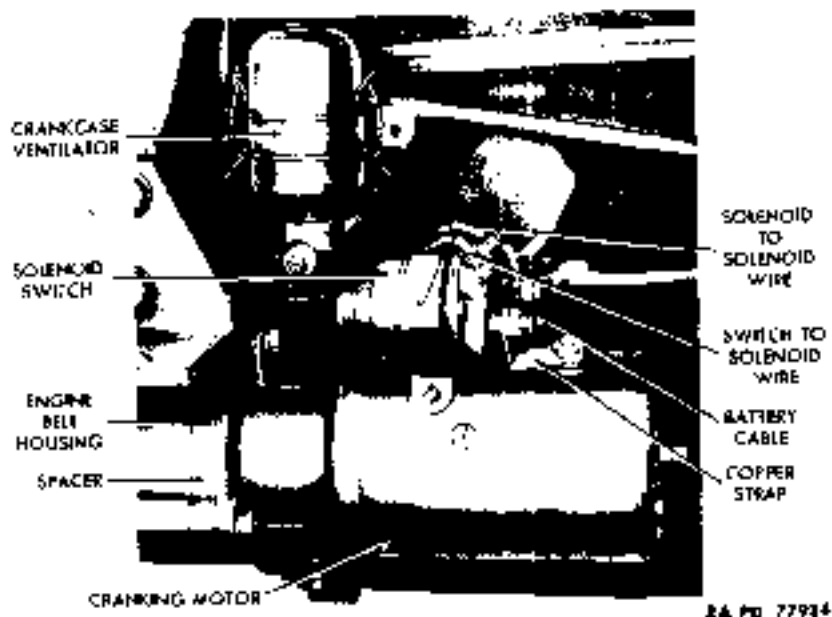

Figure 50 - Cranking Motor and Solenoid Installed
(1) **DESCRIPTION** (fig. 50). The conventional 12-volt cranking motor is located on the right side of the engine between engine and frame side rail, and is accessible through the right-hand splash shield opening and from under the truck. A cranking motor drive, attached to the end of armature shaft and enclosed in a cast iron housing, engages the flywheel ring gear to crank the engine. Drive housing and cranking motor are secured to each other by the main frame screws.
(2) DISCONNECT SOLENOID SWITCH FROM CRANKING MOTOR (fig. 50) (par. 90 b (3)).
(3) DETACH CRANKING MOTOR FROM ENGINE (fig. 50). Remove the three cap screws and lock washers which attach cranking motor to engine bell housing. Two screws can be reached through splash shield opening and one from under truck. Lift cranking motor and spacer from engine and from under truck.
(1) ATTACH CRANKING MOTOR TO ENGINE (fig. 50). From under truck, place spacer and cranking motor in position on engine bell housing. Install three cap screws and lock washers which secure motor to engine.
(2) CONNECT SOLENOID SWITCH TO CRANKING MOTOR (fig. 50) (par. 90 a (1)).
(3) TEST INSTALLATION. Push cranking switch, and check cranking motor operation.
(1) **DESCRIPTION** (fig. 50). This solenoid switch is located directly on top of cranking motor, and can be reached by removing right-hand floor board. This switch, which provides a direct battery to cranking motor circuit, is similar to the conventional type relay or magnetic switch. When cranking motor switch is depressed, a coil within solenoid switch is energized. This coil produces a magnetic field which closes the solenoid's magnetic contacts. The contacts are heavy-duty high arc resisting, to withstand heavy current load.
(2) **DISCONNECT WIRES FROM SWITCH** (fig. 50). Disconnect small red wire coming from harness, from switch top right terminal. Disconnect large red wire from harness and small red wire coming from switch front left terminal, from switch top left terminal. Remove battery cable and small red wire which goes to switch top left terminal, from switch front left terminal. Disconnect flat copper strap which goes to cranking motor terminal from switch front right terminal.
(3) **DETACH SWITCH FROM CRANKING MOTOR** (fig. 50). Remove the two screws and lock washers which secure switch to cranking motor, and lift switch from motor.
(1) **ATTACH SWITCH TO CRANKING MOTOR** (fig. 50). Position switch on cranking motor, and install the two lock washers and screws.
(2) **CONNECT WIRES** (fig. 50). On switch front right terminal, install flat copper strap from cranking motor terminal, lock washers, and nut. On switch front left terminal, install battery cable, small red wire which goes to switch top left terminal, lock washer, and nut. On switch top left terminal, install large red wire from harness and small red wire from switch front left terminal, lock washer, and nut. On